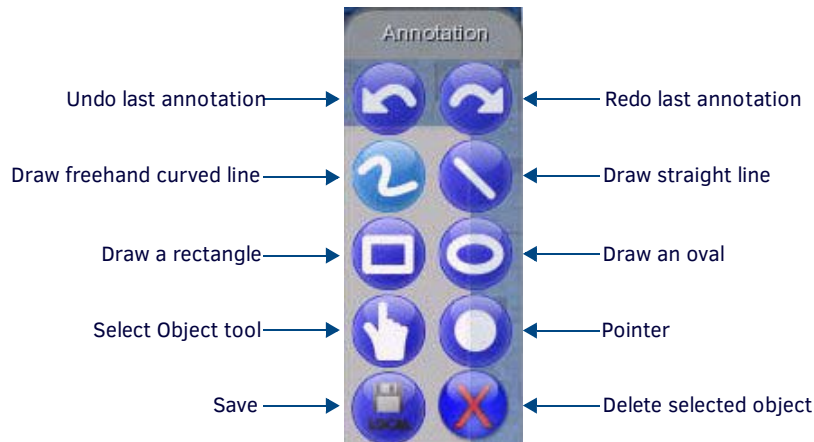

FIG. 92 TakeNote Menu Bar - Annotation Tools
The top portion of the TakeNote Menu Bar contains the main annotation tool set (FIG. 92):
1. Select the Freehand Curved Line tool from the TakeNote Menu Bar (see FIG. 92).
NOTE: Use the Rectangle tool (see FIG. 92 on page 141) to draw squares and rectangles.